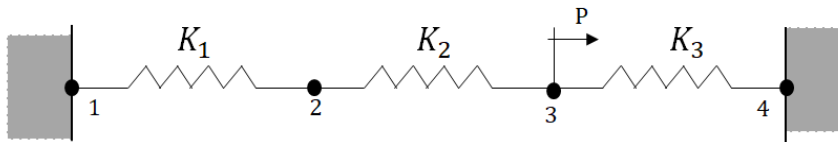

Figure 2
- c) For the three element spring system shown in Figure 2 $K_1 = 100 \text{ N/mm}$, $K_2 = 200 \text{ N/mm}$, $K_3 = 100 \text{ N/mm}$, and $P = 500 \text{ N}$.
Figure 2 a
Figure 2 b